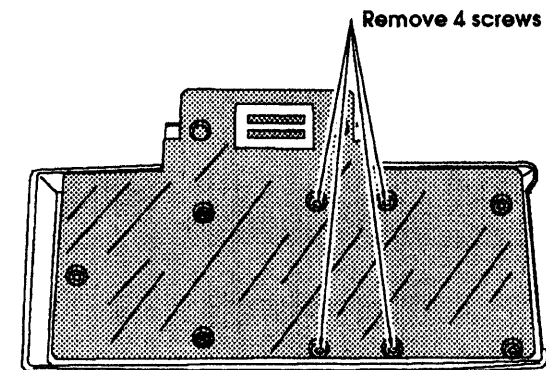

Figure 5.13 – Hard Drive securing screws.
- 2) Carefully turn the entire A530 Turbo subsystem upside down and, using a cross-point screwdriver, remove the four screws indicated in Figure 5.13.